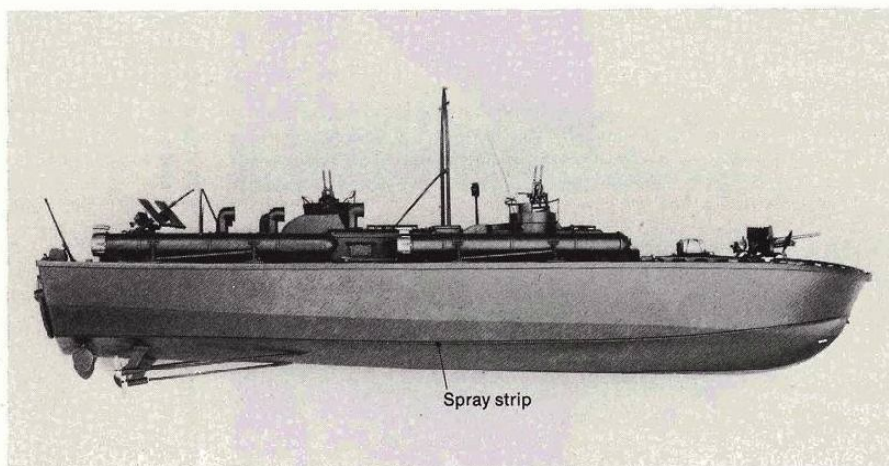

Fig. 2. Add a spray strip at the chine where the hull sides meet the bottom.
**Spray strips, exhausts, and fore-deck details.** At the intersection of the hull bottom with the sides, the chine, add spray strips of  $\frac{1}{8}$ "-wide,  $\frac{1}{16}$ "-thick plastic the entire length from bow to stern on both sides of the hull, Fig. 2. (Do not carry the spray strip onto the transom.) Sand the bottom edges of the strips until they match the flare of the hull bottom.